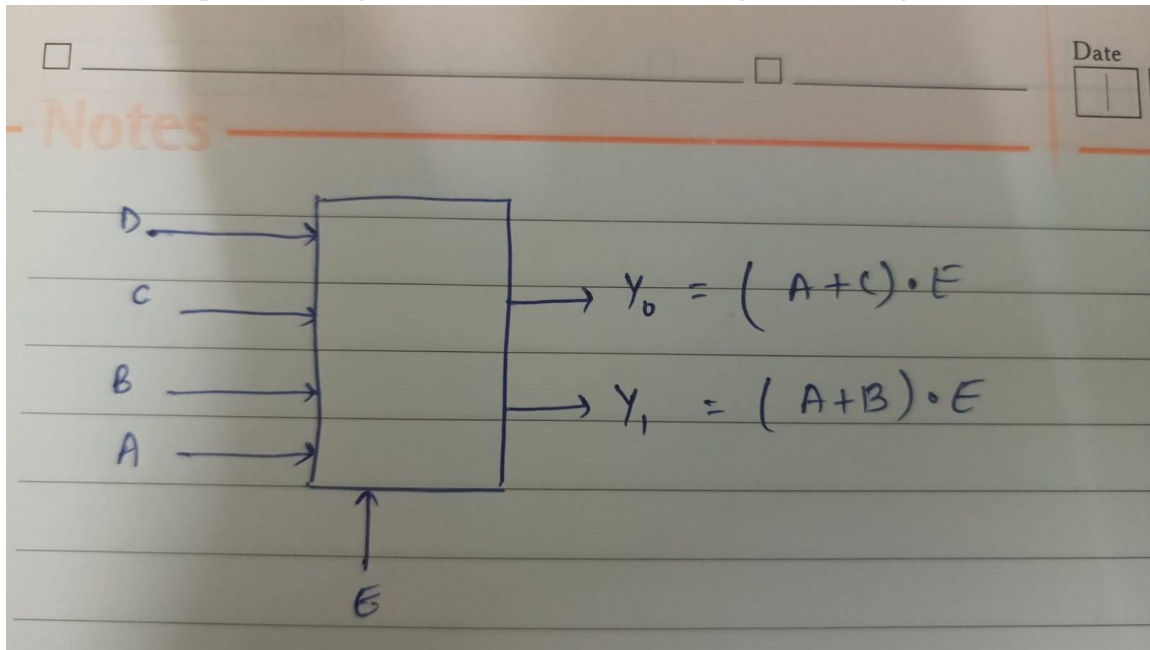

Fig 1
- Therefore, the possible figure of encoder drawn is given in Fig 1